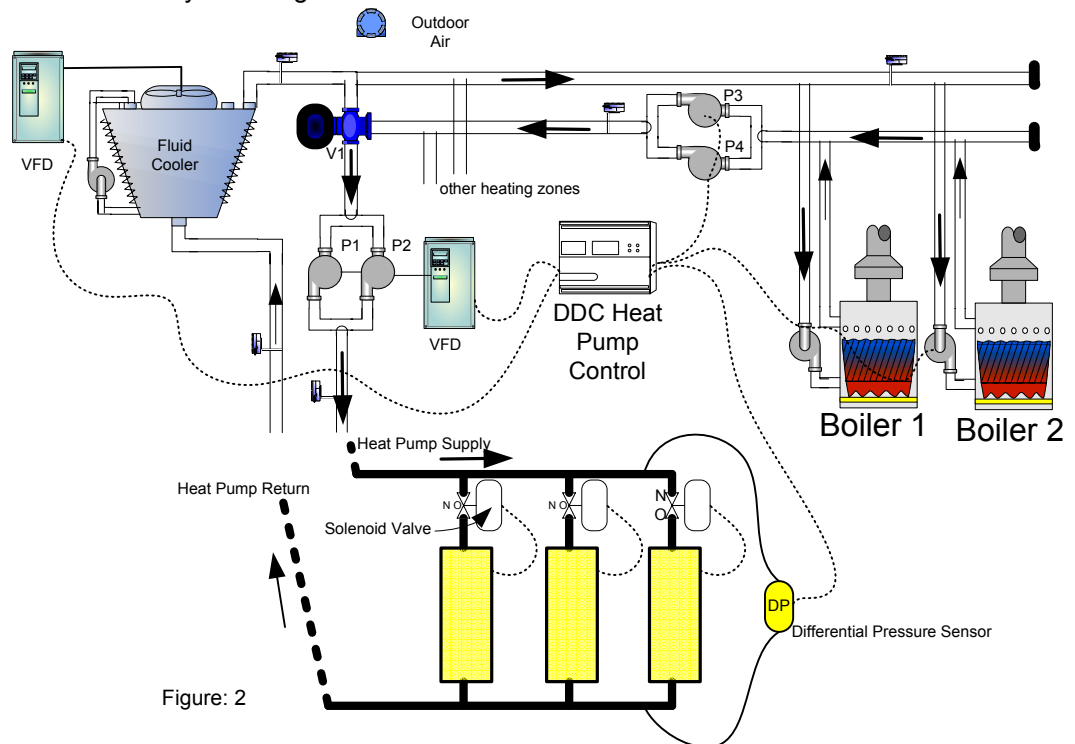

Figure: 2
A typical heat pump loop circuit, such as shown in Figure 2, controls the heat pump loop at set point, by modulating valve (V1) for heating and sequencing the fluid cooler (cooling). With solenoid valves installed at each heat pump (HP), flow can now be controlled by the VFD controlling P1 & P2. The fluid cooler fan motor may also be controlled by a VFD – further increasing the savings.